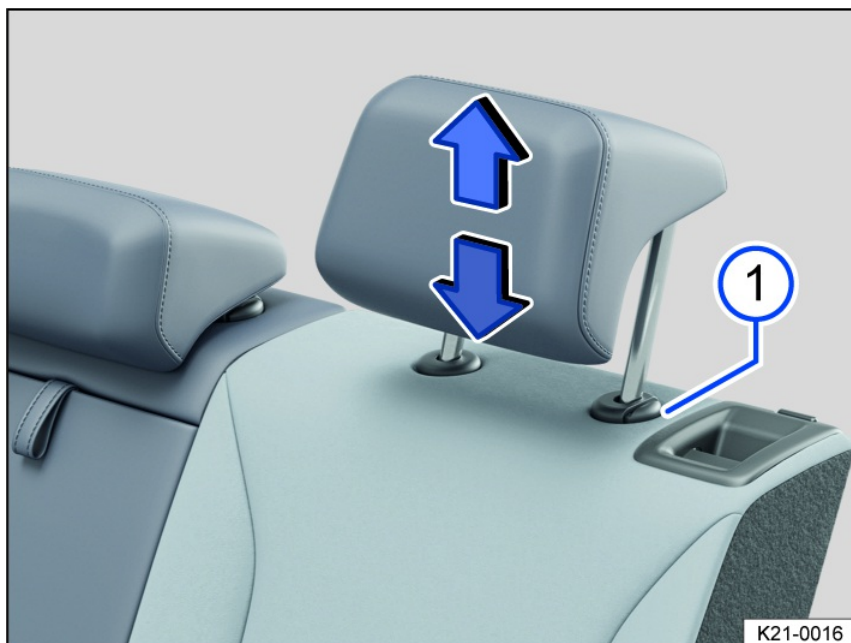

Fig. 86 General example: removing the head restraint on the second-row seats.
3. Pull the head restraint all the way out while pressing the fig. 86 button.
3. Push the head restraint downward while pressing the fig. 86 button.